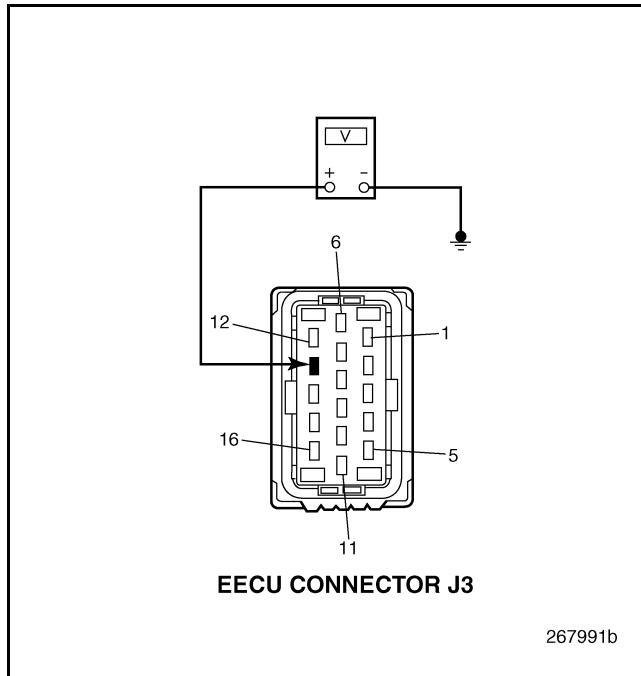

Figure 753
5. Measure the voltage between the EECU connector J3 pin 13 and a good ground (see Figure 753).